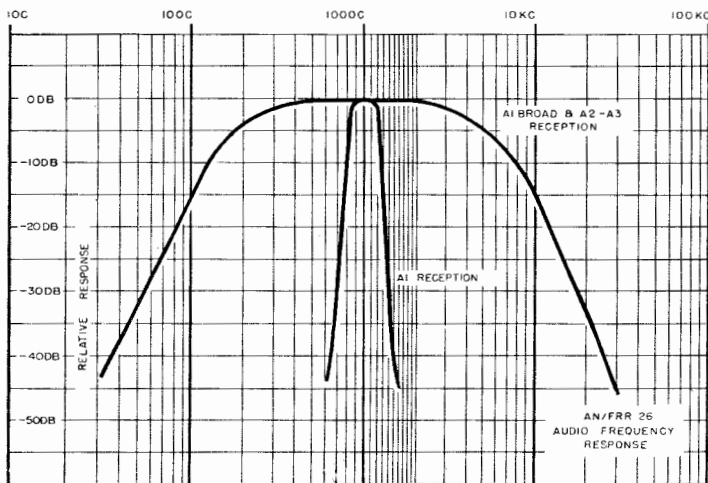

Figure 7-7. Audio Frequency Response
(1) Connect a 600 ohm audio output meter across pins A and B of AUDIO receptacle (J505), located on the rear panel. The test set-up is shown in figure 7-8. Proceed with the test as outlined in table 7-6. The overall audio response is additionally indicated by figure 7-7.